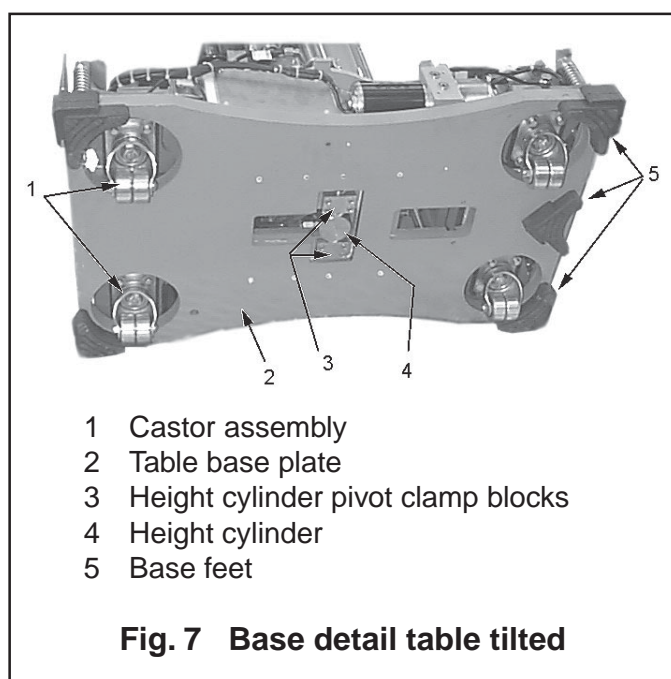

Fig. 7 Base detail table tilted
6.12 With the table tilted, proceed as follows (referring to Fig 7):